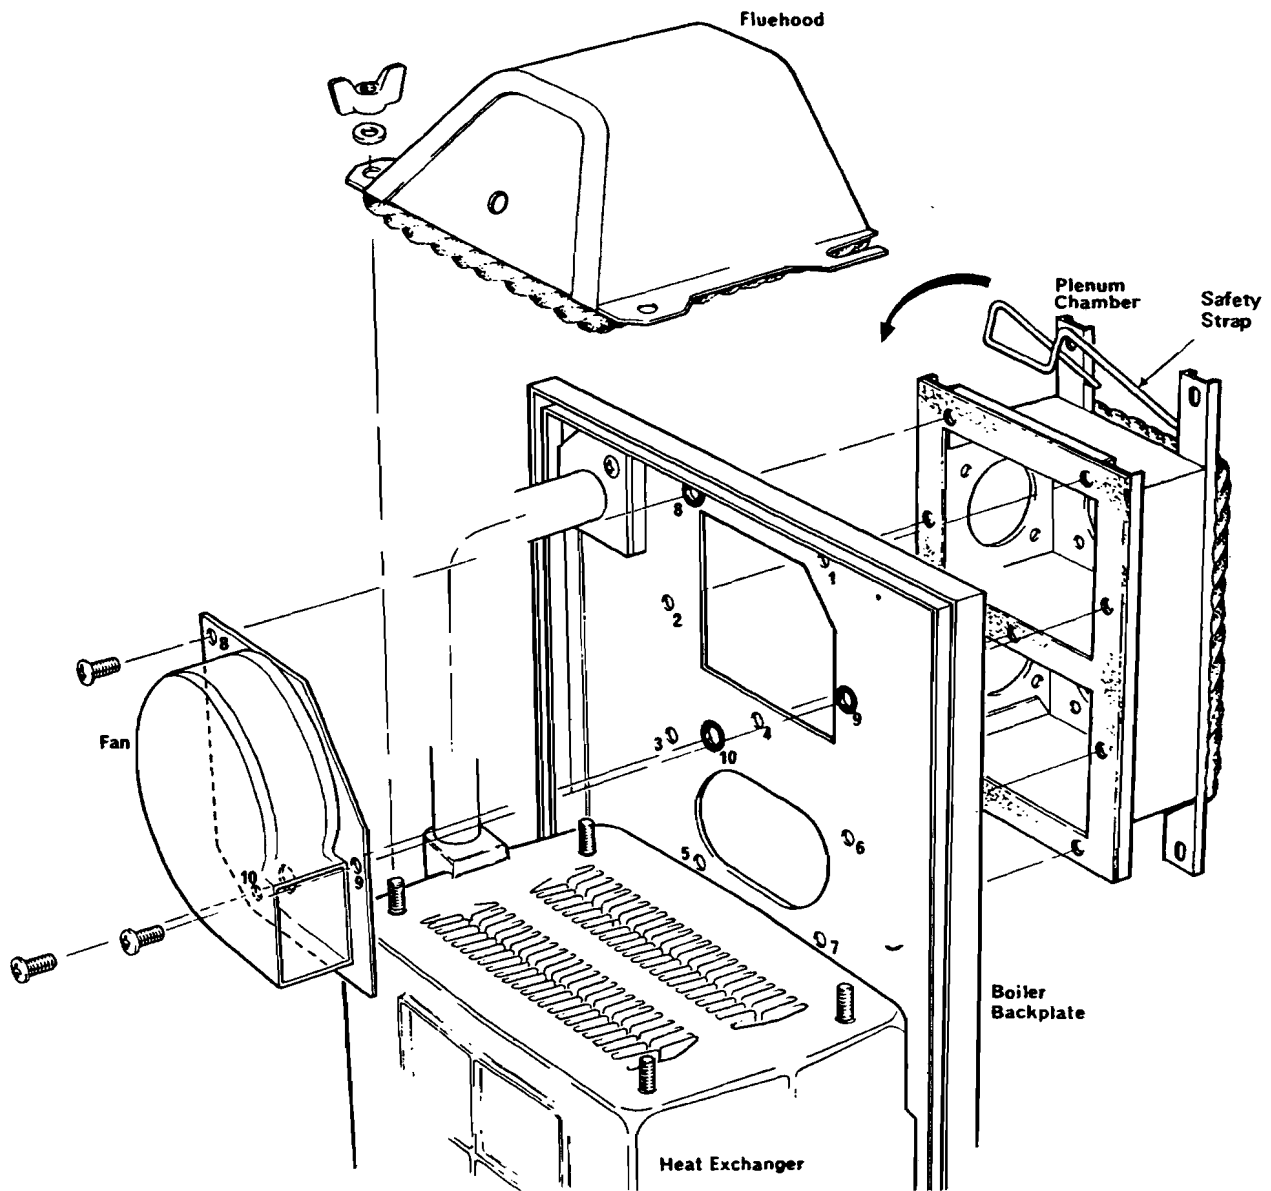

Fig. 9 PLENUM CHAMBER, FLUEHOOD AND FAN ATTACHING PARTS
- F. Unscrew and remove the wingnuts securing the fluehood, then lift off the fluehood, see Fig. 9. Discard the paper gasket.
- G. Disconnect the three electrical leads from the fan, then unscrew and remove the bolts securing the fan. Lift off the fan, see Fig. 9.
- H. Unscrew and remove the bolts securing the plenum chamber, see Fig. 9.
- (2) Connect a suitable length of 15mm pipe to the main gas cock, terminating it above, below or to the side of the boiler in a length which can be easily connected to the main supply, once the boiler is in position on the wall.
5. Fitting the Boiler on the Wall — See Fig. 9
- A. Stand the boiler on the floor in a vertical position, then using the two wooden feet, the cast iron flow pipe and the underside of the heat exchanger, lift the boiler into position on the wall, locating its mounting bracket on the bearing plate in the mounting channel. Support the boiler in this position using the safety strap if necessary, then secure the boiler backplate to the plenum chamber with seven bolts, see bolts numbered 1 to 7 on Fig. 9. Three bolt holes in the boiler backplate are marked with a ring and these are for use when fitting the fan and must not be used in this operation.
- Warning:** (1) Take care not to damage the igniter housing on the back of the boiler, adjacent to the boiler main mounting bracket.
- (2) When fitting the bolts in A, the weight of the boiler could distort the boiler support bracket so making it difficult to line up the bolt holes in the boiler back plate with those in the plenum chamber. If this should occur, the weight of the boiler should be supported until the bolts are correctly engaged.
- B. Fit the fan in position and secure it to the boiler backplate with the three bolts, numbered 8 to 10 on Fig. 9. Connect the two mains electrical leads to their connections on the boiler backplate and the earth lead to the earth screw also on the backplate.